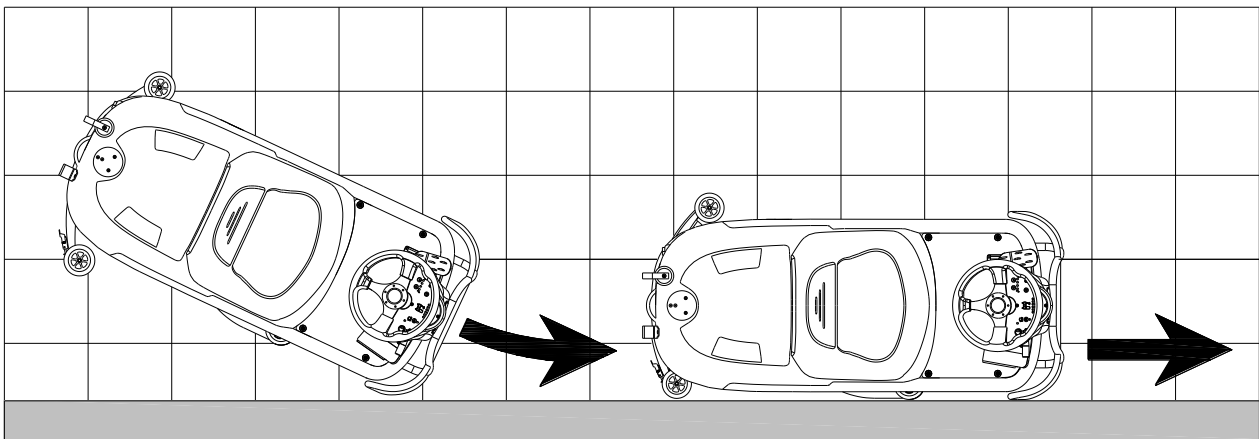
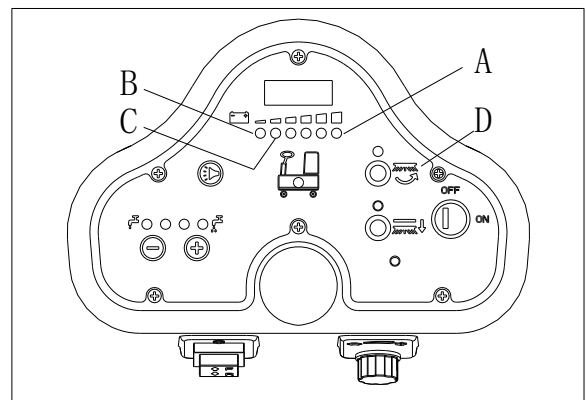

Figure 11
Figure 12
For correct scrubbing/drying of floors at the sides of walls, we suggest to go near the walls with right side (Bumper wheel side) of the machine as shown below in Figure 11.
When there is green light (A, Figure 12) on, the batteries have enough power for the machine to work normally; when all the green lights off, the yellow light (C, Figure 12) is on, the power of batteries are too low, please charge the batteries; when the red light (B, Figure 12) flashes, the batteries has run out, the vacuum motor and brush motor will be turned off automatically a few seconds delay, please drive the machine for batteries charging immediately.
If the vacuum system turns off accidentally, (For example, when the float is activated because of a sudden machine movement), to resume the operation: turn off the vacuum system by pressing the switch (D, Figure 12), then open the cover (A, Figure 11) and check that the float inside the grid (B) has gone down to the water level. Then close the cover (A) and turn on the vacuum system by pressing the switch (D, Figure 12).
2. Lift the brush/pad deck (H, Figure 12) by pressing the pedal (G).
3. Lift the squeegee with the lever (H).
5. Empty the recovery tank with the drain hose (D). Then rinse the tank with clean water.